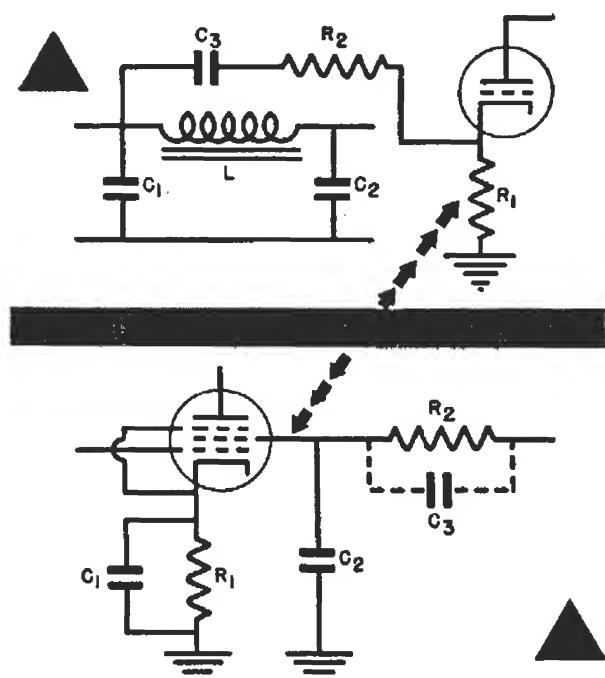

FIG. 16. Two methods of hum bucking.
►Fig. 16 shows two ways to buck or cancel out hum by deliberately introducing an out-of-phase hum into the hum-producing circuit.